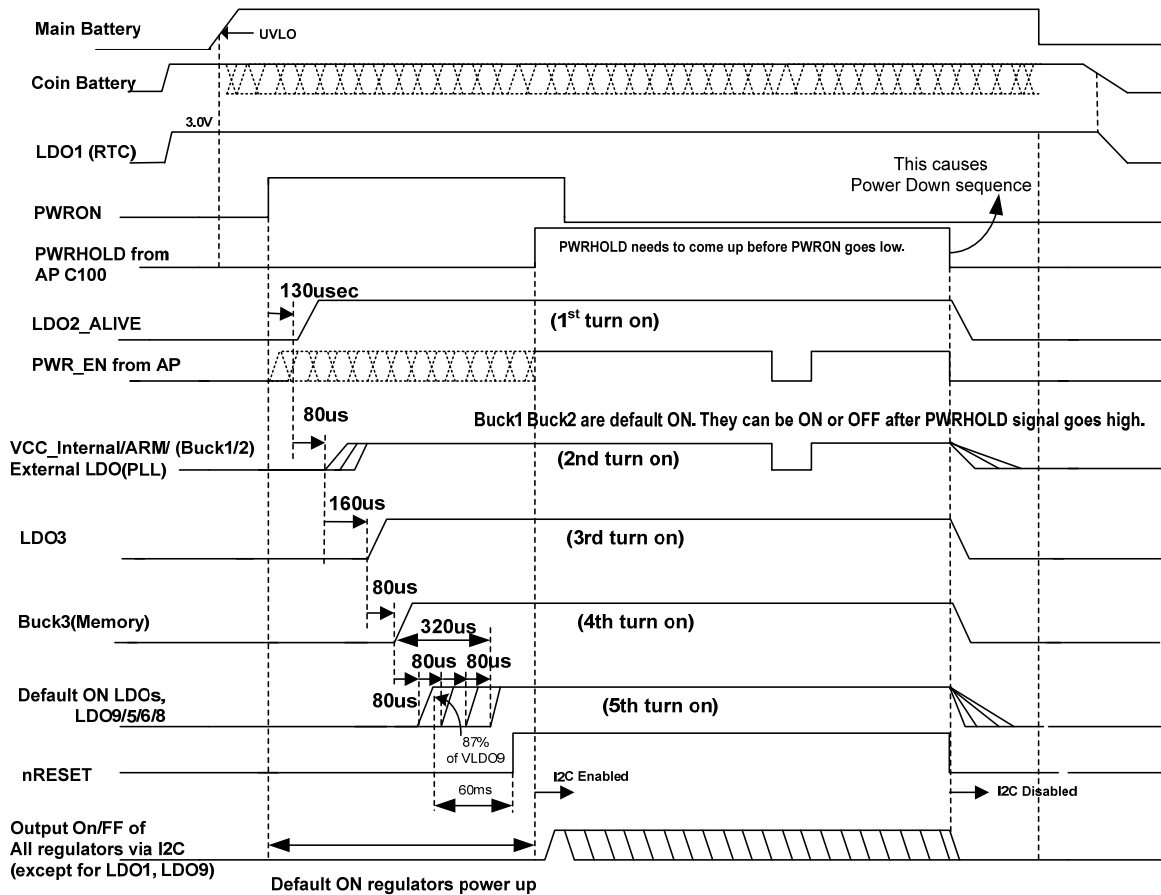

Figure 5. Power up/down sequence
Note that the Samsung S5PC100 processor controls PWRON/SET1/SET2/SET3/PWRHOLD. Buck1/2 and LDO2 are logically connected to ensure Buck1/2 are powered up after LDO2. LDO2 can be enabled /disabled by only I2C during normal operation. See Figure 5 and Figure 6.
- Falling threshold level on PWRHOLD & Low level of PWRON switch (See Figure 5)
See Figure 5 and 6